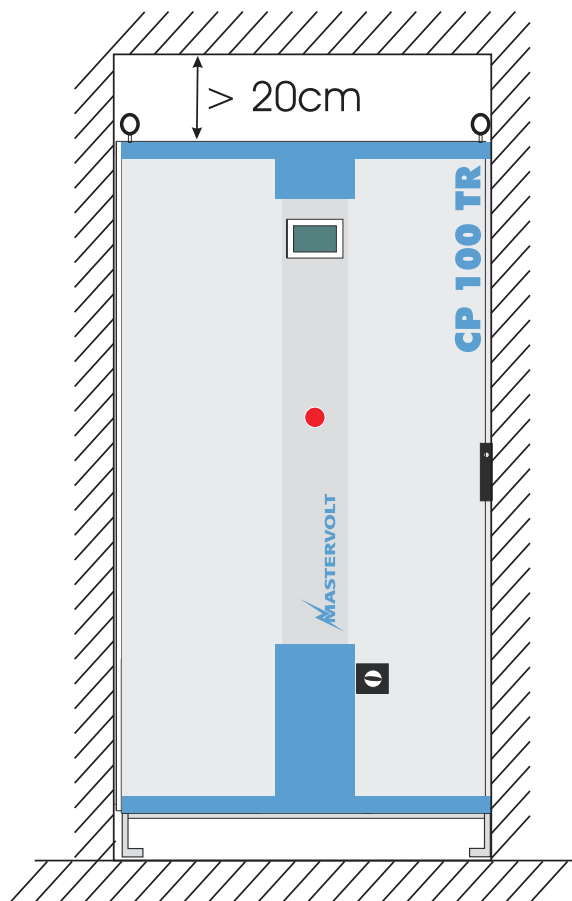

Figure 6
- See figure 6. Keep at least 20 cm space at the top side of the cabinet. The cabinet doesn't need any clearance at the backside or sidewalls.